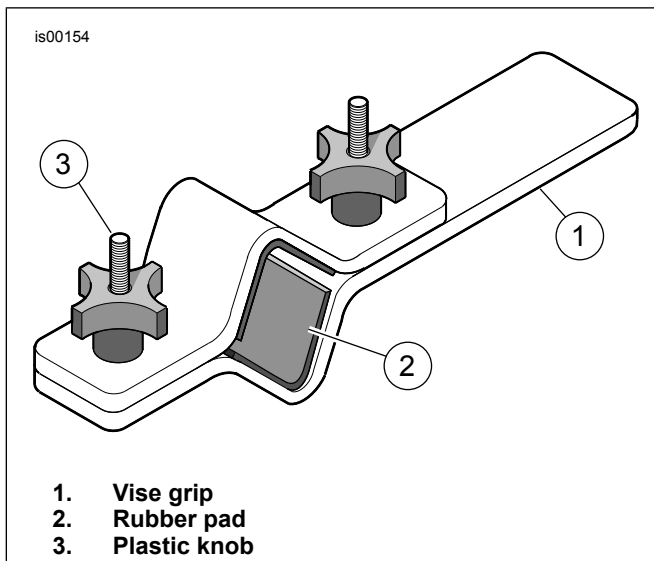

Figure 2. Fork Tube Holder (HD-41177)
1. See Figure 2. Obtain FORK TUBE HOLDER (HD-41177).